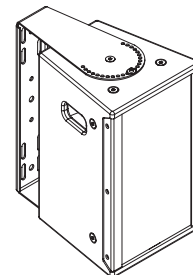

Fig.2
- Step 4:** Rotate the loudspeaker into the desired direction (in 10° steps), and insert the locking screw through the arm of U-bracket. Then tighten the side screws permanently. (See figure 2)